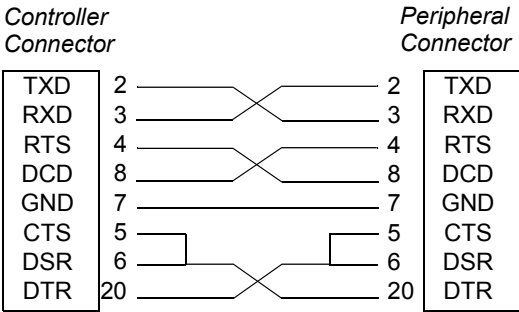

FIGURE 10. Asynchronous Null Modem Cable (DTR Handshaking)
- DTR supports hardware handshaking when the peripheral uses the *Data Terminal Ready* (pin 20) signal (see Figure 10).